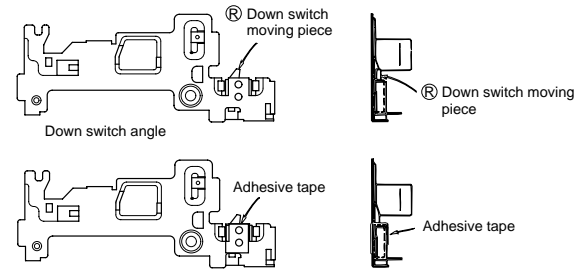

Fig. 6
- (3) Surely secure the moving piece (R) of down switch as shown in Fig. 6 with the aid of adhesive tape so that the switch is turned on.
- (4) Install the down switch angle.
- Note) To set the REC mode, press the pin of recognition switch (S) (not required in other modes).
- (5) Set the test mode (T-01) with the adjustment remote controller without loading the tape. Thereby the mechanism operation is enabled with the mode key.
- (6) To eject, remove the tape (3).